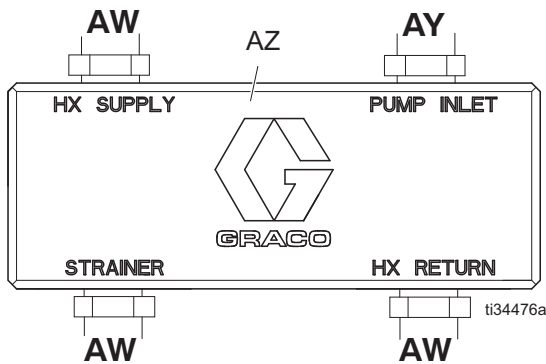
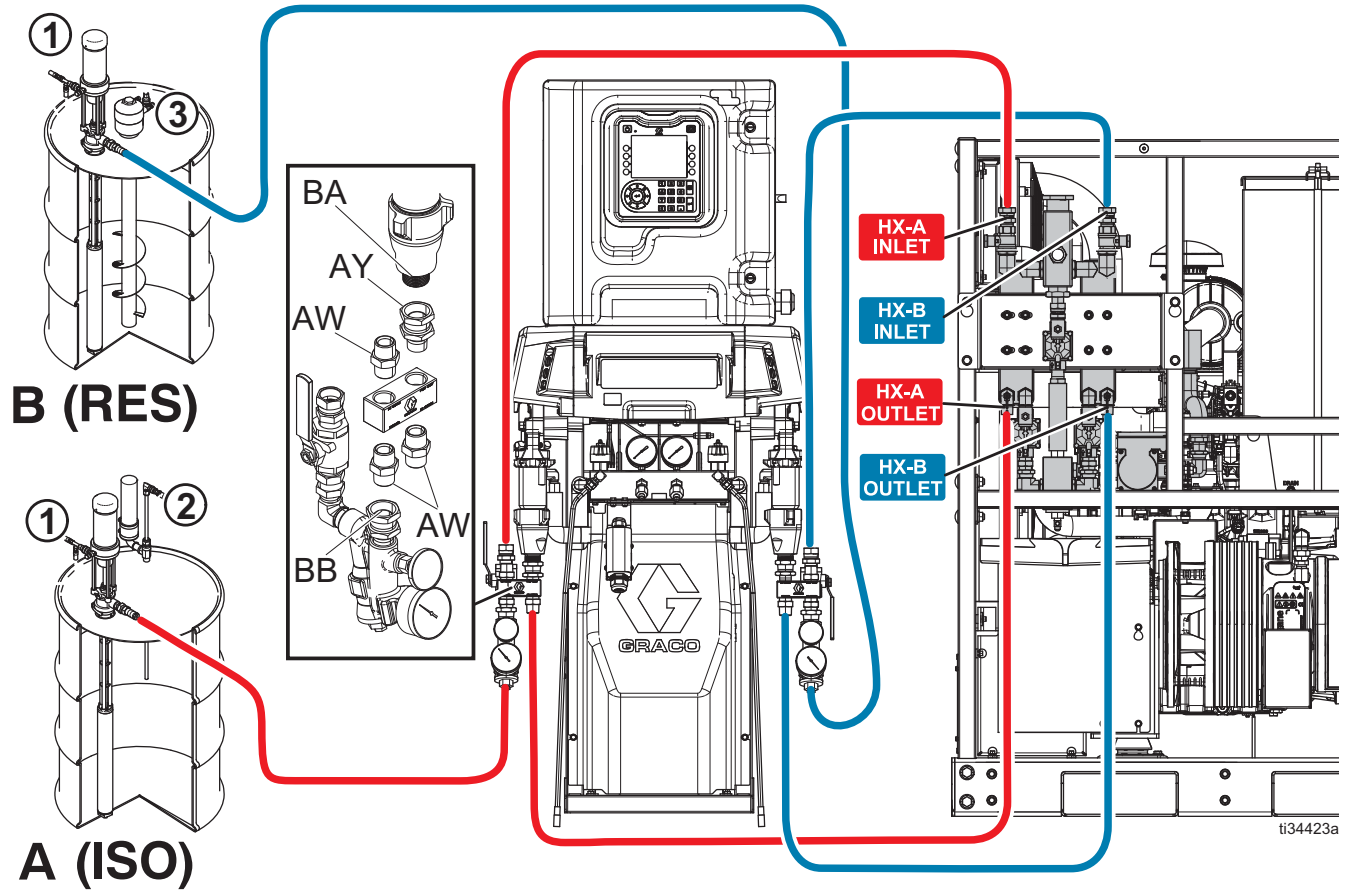

FIG. 15: Chemical Supply Manifold
FIG. 16: Supply Hose Connections
1. Separate the Reactor 2 proportioner fluid inlet screen assemblies (BB) from the Reactor 2 pump lowers (BA). See FIG. 16.
2. Mount the chemical supply manifolds (AZ) to the Reactor 2 pump lowers. Connect the manifold port to the appropriate pump lower using the loose fitting (AY) provided.
NOTE: The A-side and the B-side pump fittings must be installed on the chemical supply manifolds (AZ) before attaching to the pump lower (BA). See FIG. 15 and FIG. 16.
3. Connect the Reactor 2 inlet strainer assemblies (BB) to the fitting (AW) installed on the STRAINER port on the chemical supply manifolds. See FIG. 15.
4. Connect the supply hoses from the feed pumps to the component A and B fluid inlet strainer assemblies (BB). Ensure that the A and B valves are closed.
5. Install the A and B component supply hoses between the fitting (AW) on the HX SUPPLY port of the chemical supply manifolds (AZ), and the secondary heat exchanger A and B inlet ports (HX-A INLET, HX-B INLET). See FIG. 6, FIG. 15, and FIG. 16.